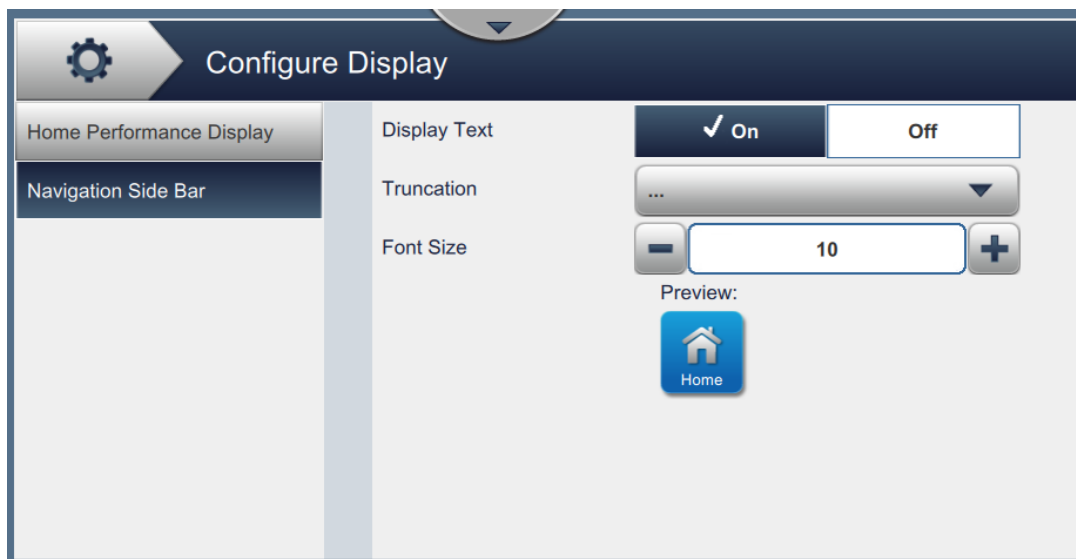

Figure 6-21: Navigation Side Bar
3. Touch the *Navigation Side Bar* option to set the text settings on the control bar icons as shown in Figure 6-21.